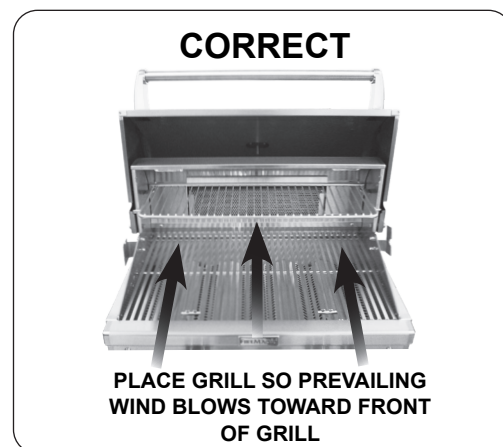

Fig. 8-2 Airflow direction - CORRECT
**CAUTION:** Wind blowing into or across the rear oven lid vent (Fig. 8-3) can cause poor performance and/or dangerous overheating. Orient the grill so that the prevailing wind blows toward the front of the grill (Fig. 8-2). **A wind deflector is available for purchase to assist in proper airflow during windy conditions.** See Table 2 for model numbers. Follow the instructions included with the wind deflector for installation.